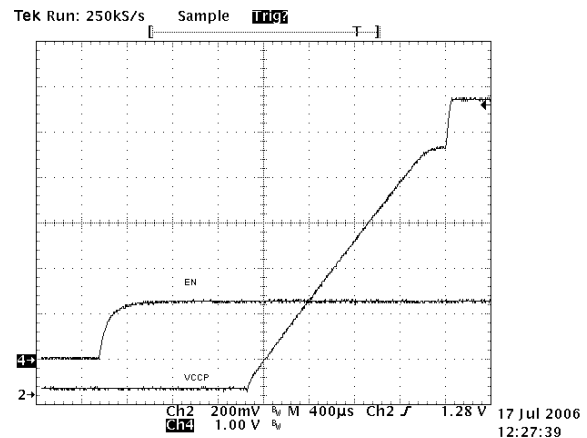

Figure 15. VR11 Startup
The controller supports two different startup routines. A legacy VR10 ramp to the initial VID code, or a VR11 Ramp to the 1.1 V VID code, with a pause to capture the VID code then resume ramping to target value based on an internal slew rate limit. See Figures 15 and 16. The controller is designed to regulate to the voltage on the SS pin until it reaches the internal DAC voltage. The soft-start cap sets the initial ramp rate using a typical 5.0 μ A current. The typical value to use for the soft-start cap (SS), is typically set to 0.01 μ F. This results in a ramp time to 1.1 V of 2.2 ms based on equation 1.